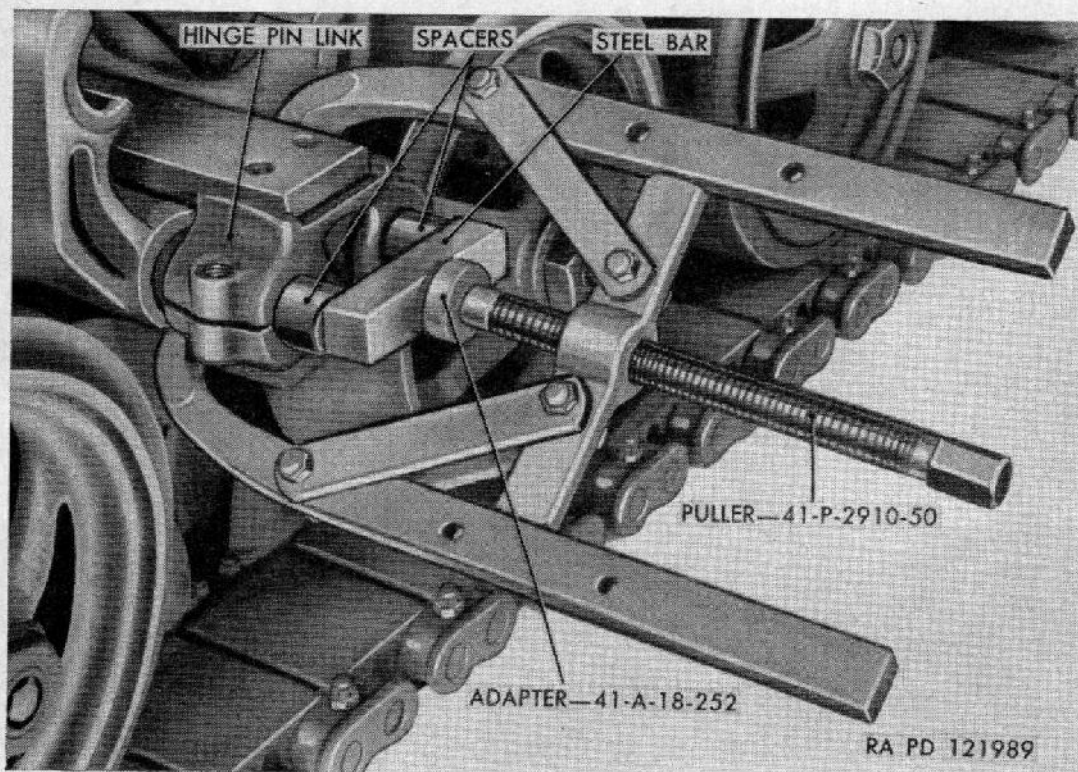

Figure 150. Removal of hinge pin.
- (3) *Remove hinge pin link from outer end of suspension arm hinge pins.* Remove the two clamp bolts and the two bolts that extend through the bracket and hinge pin link (fig. 150). Using two spacers against ends of the two shafts with a steel bar across them, place step plate puller adapter 41-A-18-252 against steel bar and mount puller 41-P-2910-50 shown in figure 150. Turn the forcing screw in against step plate adapter and bar to pull link from pins.